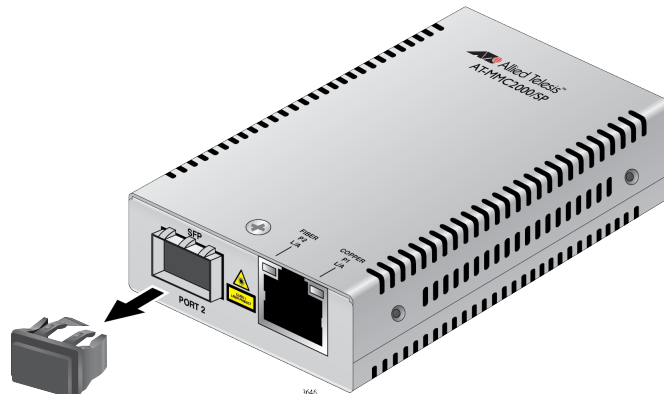

Figure 31. Removing the Dust Plug from an SFP Slot
2. Remove the dust plug from the SFP slot. See Figure 31.